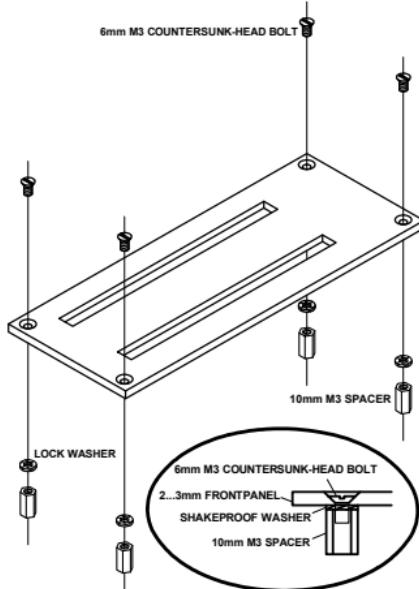

Fig. 2.0
(B) Mount the suitable spacers (fig. 2.0) :